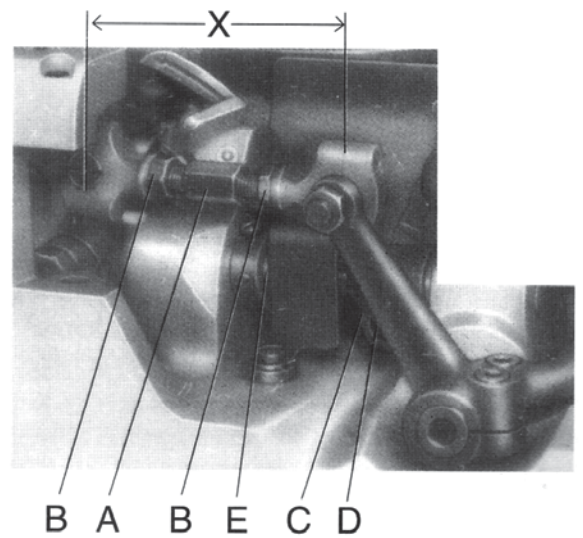
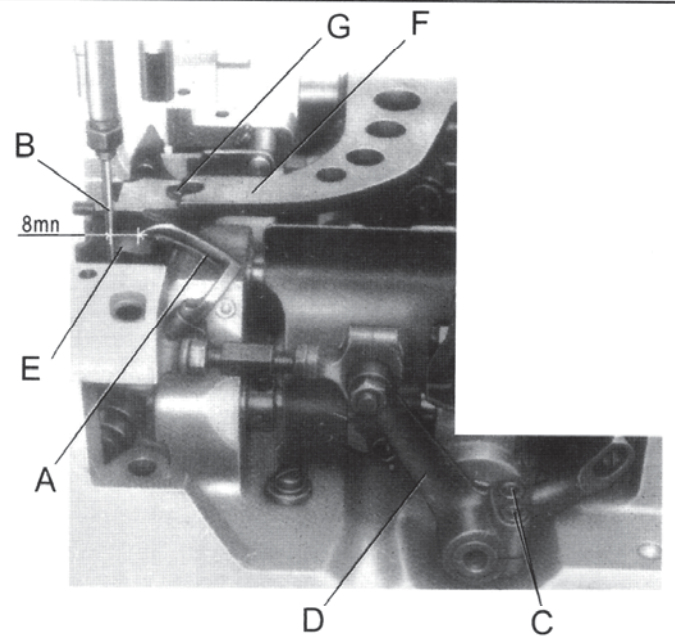
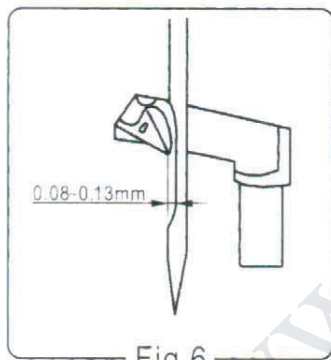
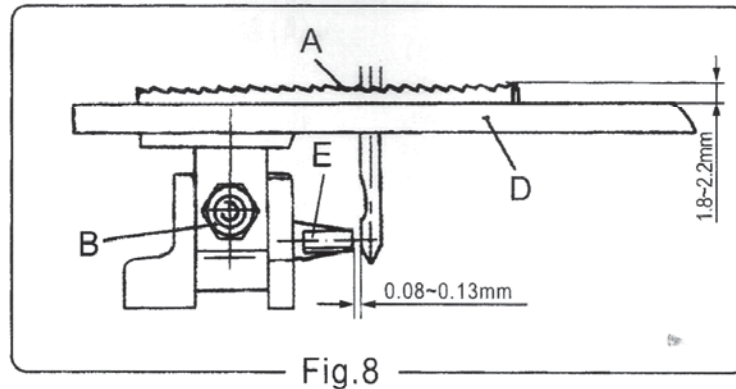

Fig.4
Fig.5
Fig.6
Fig.8
(1) Looper
- a. First set the looper connecting rod A(Fig.4), so the distance X (Fig.4) between the centre lines of the two ball joints is 69.8mm. For adjustment, loosen the two nuts B and turn connecting rod A forward or backward as required to obtain specified dimension. Retighten nuts B.
- b. Rotate the machine pulley clockwise by hand, so that the needle bar moves to the lowest point, at the same time the looper moves back to its farthest position to the right. The distance from the point of the looper A (Fig.5) to the centreline of the needle is 8mm. For adjustment, loosen two screws C in the looper drive lever, rotate looper drive lever D left or right as required to obtain specified dimension and retighten screws C.
- c. Rotate the machine pulley so that the looper A(Fig.5) moves from right to left. The looper point should pass close as possible as the back of the needle without contacting, about 0.08-0.13mm (Fig.6) clearance. For adjustment, loosen screw D(Fig.4)in the looper eccentric fork C and turn rocker shaft E on the looper rocker with the looper forward or backward as required. Retighten screw D.
(2) Needle Bar
The needle guard E(Fig.8) will protect the needle and prevent it from bending or breaking when the needle goes down. The clearance between the needle and the needle guard is 0.08mm-0.13mm(Fig.8).For adjustment, rotating pulley in the direction of operating, so that the needle guard moves against the needle. Loosen set screw G on feed dog holder (Fig.5), move the needle guard accordingly. Retighten screw G.
The height of the feed dog A(Fig.8)is determined by the quality and the thickness of the sewing materials. For closing thin material such as bags made of cloth and plastic, teeth surface should project 1.8mm above the throat plate D top surface, and for sacks about 2.2mm above the throat plate. For setting, move the feed dog to the highest position, loosen nut B and adjust feed dog by raising or lowering it. Retighten nut B.